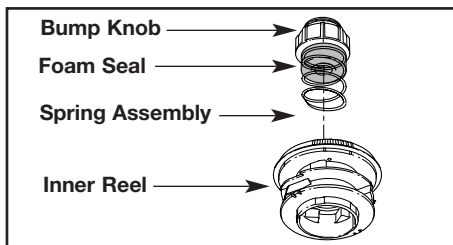

Fig. 17
2. Remove the Bump Knob, foam seal, spring, inner reel, and trimming line from the outer spool (Fig. 17).
5. Install the inner reel, spring, foam seal, and Bump Knob into the outer spool (Fig. 17).